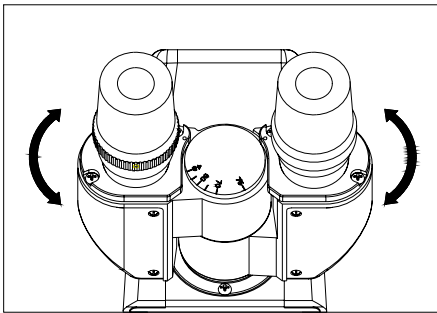

Fig.22
3.3.6 Adjusting the Interpupillary Distance (Fig.22)
When observing with two eyes, hold on the left and right prism holders, turn them around the axis to adjust the interpupillary distance until the left and right fields of view coincide completely, as shown in Fig.22.